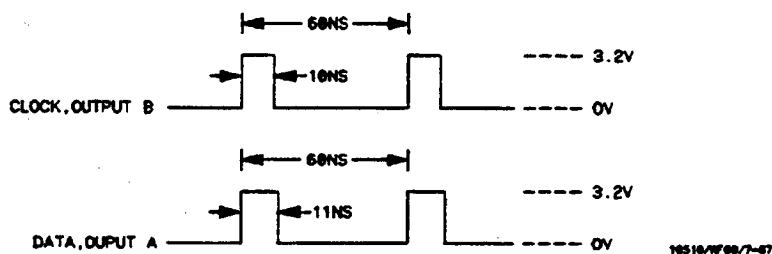

Figure 3-20. Pulse Generator Waveform For Test 4
- Set the pulse generator as follows for the output shown in figure 3-20.